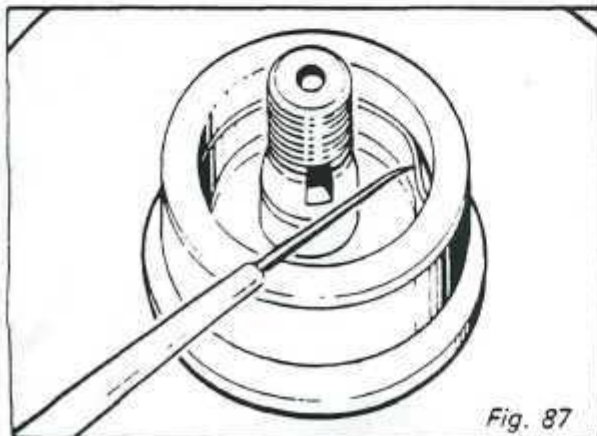

Fig. 87
Step 7 — Use the "O" ring hook to remove the shaft seal "O" ring. Be careful not to scratch the groove. Fig. 87